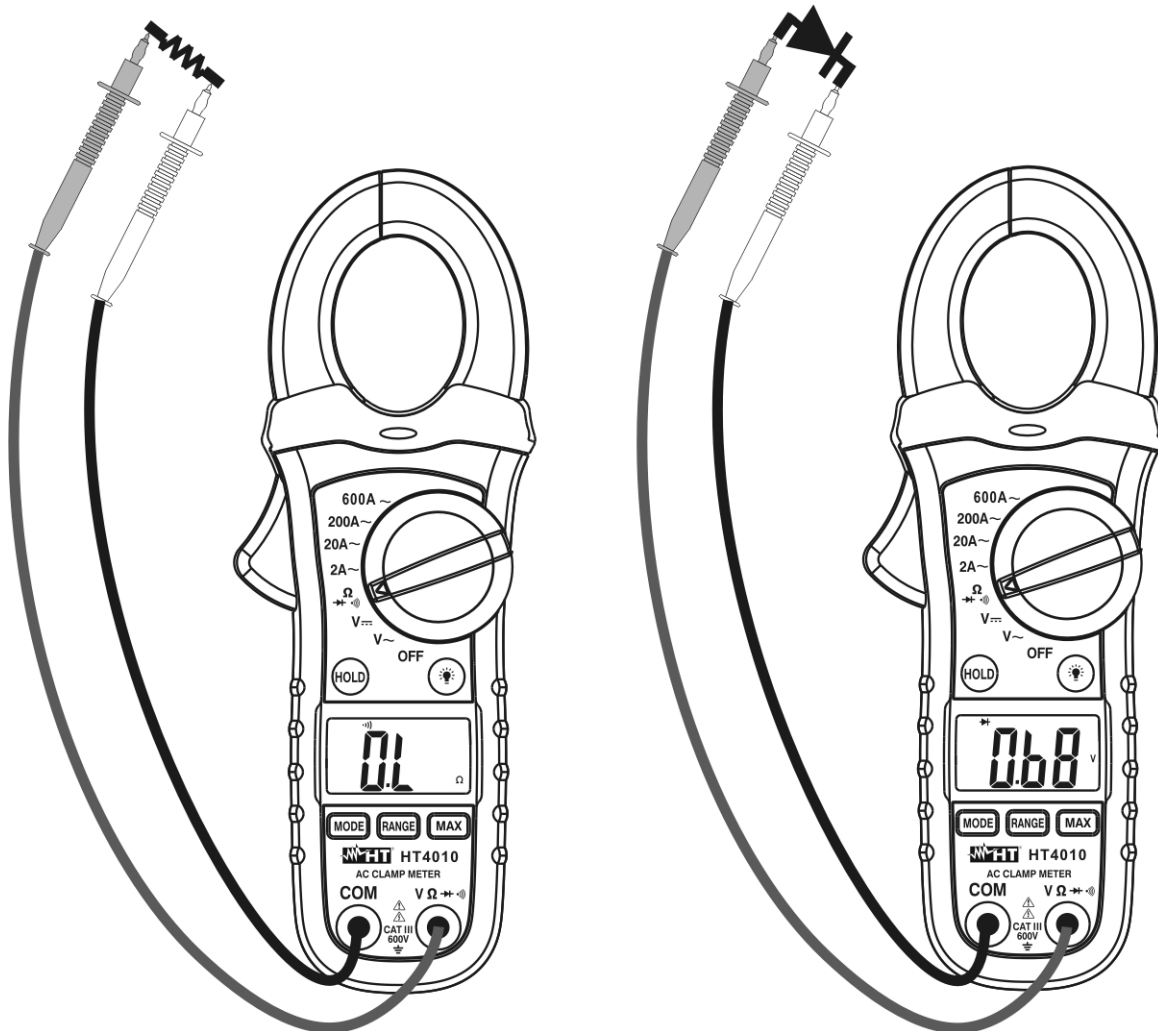

Fig. 6: Taking continuity test and diode test
3. Insert the red test lead plug into $V\Omega \rightarrow \rightarrow \rightarrow$ jack and the black test lead plug into **COM** jack and perform continuity test on the object on test (see Fig. 6 – left side). Buzzer emits sound if the measured resistance value is less about 150Ω
5. Connect the red test leads to the anode of diode on test and the black test lead on the cathode ones (see Fig. 6 – right side). The correspondent threshold voltage of P-N junction is showed on display